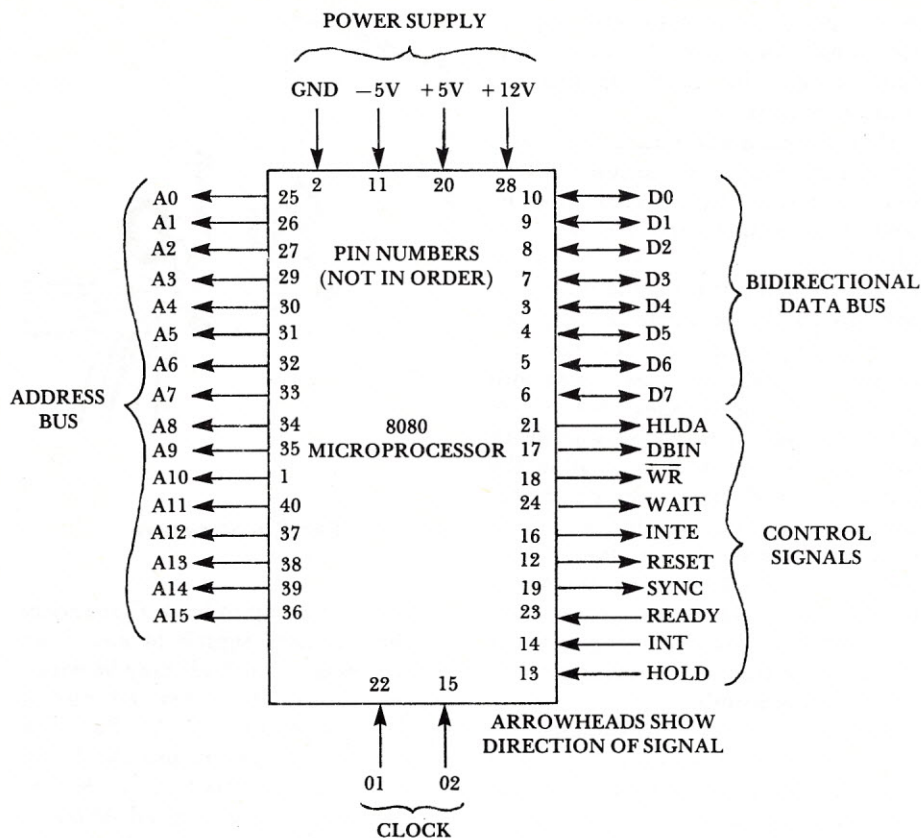
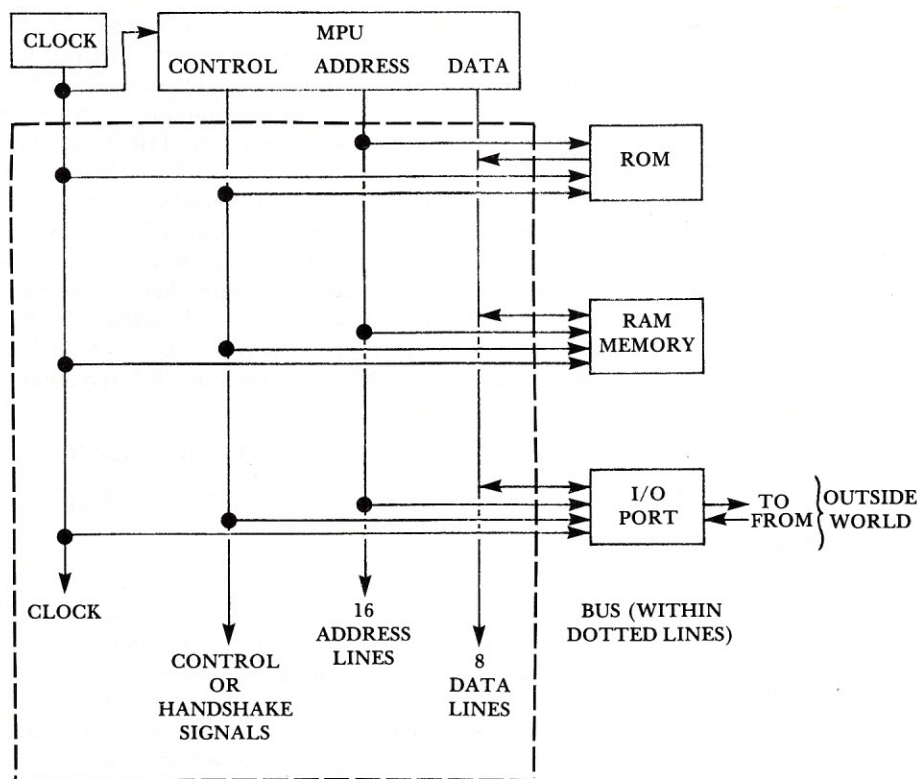

Figure 5
Figure 6
The S-100 is formed by a 100-line set of copper foil traces on a large printed circuit (PC) board, sometimes called a mother board. These lines (not all of which are in use at once, some being available for future expansion) are electrically connected to the CPU board, clock, and power supply. The user can then "plug" twenty or so devices such as memories and I/O ports into the bus merely by inserting the selected device into one of the 100-pin connectors. The actual signals carried on the Altair and similar bus structures are shown in Figure 5. Keep in mind that the hobby computer demand is growing rapidly and that this bus structure may be modified by the time you have read this description.
The "pin out" of the 8080 is shown in Figure 5 and the reader can see how the 8080 mates with the classical computer bus structure in Figure 6.
The CONTROL bus contains the "handshake" signals that tell the non-CPU devices what to do at a particular instant. As shown in Figure 6, the control signals include WR (write-read),
The microprocessor shown in Figure 6 has five basic elements: The MPU (microprocessor unit) which does all the data processing, some RAM memory (random access memory also called "read-write memory"), an I/O